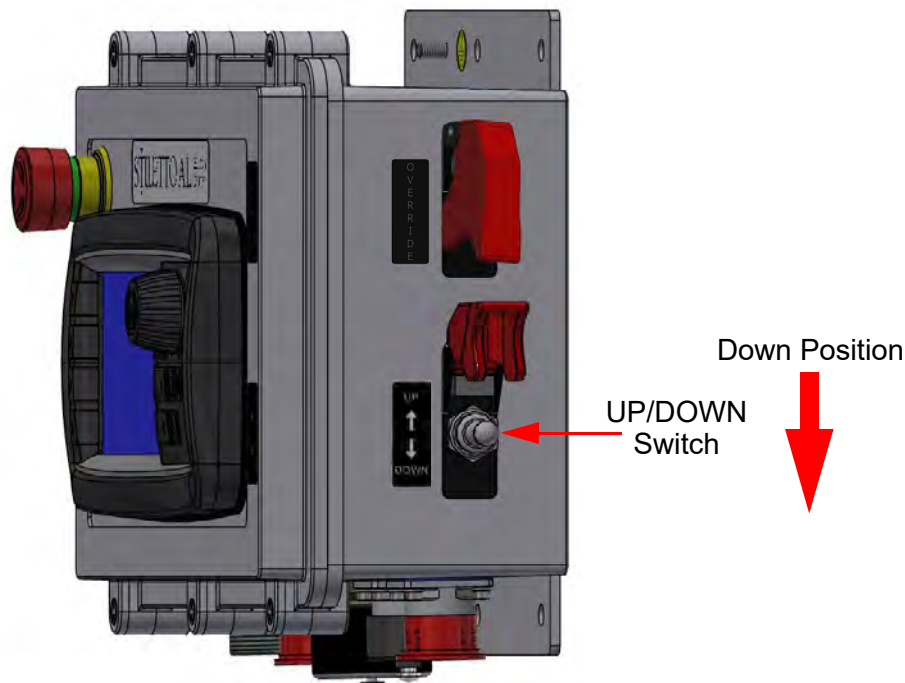

Figure 6-2 UP/DOWN Switch Down Position
2. Hold the UP/DOWN Switch in the down position (Figure 6-2). As long as the UP/DOWN Switch is held in the down position, the mast will retract and the display will show the appropriate intermediate extension height. Be sure to stay clear of the collars during operation as they create a pinch point hazard.